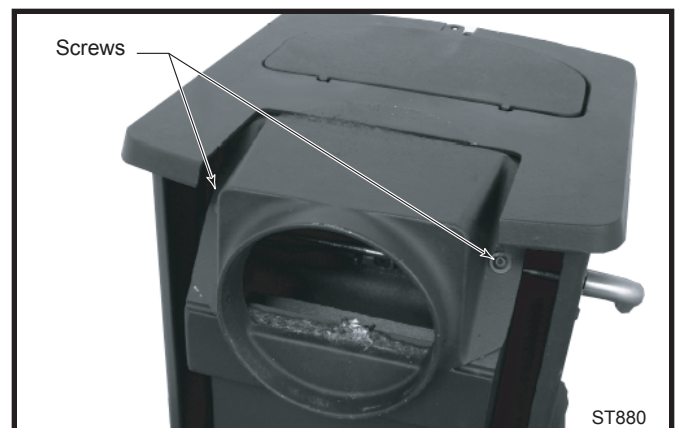

Fig. 14 Flue collare, reversed.
3. Replace the two (2) screws removed in Step 1. (Fig. 14)